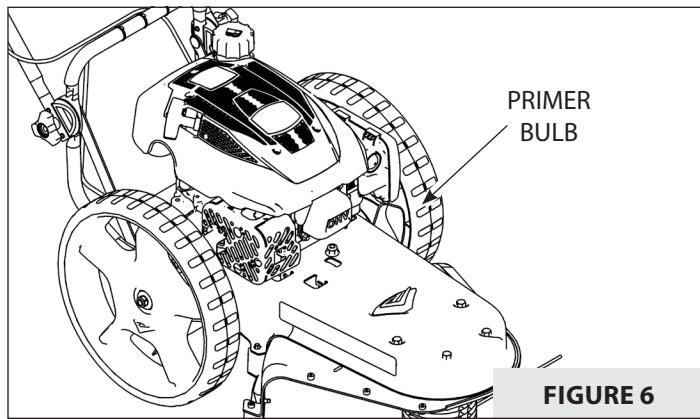

FIGURE 6
- Push the primer bulb three times. Wait approximately two seconds between each push. **SEE FIGURE 6.**
- Set ON/OFF (I/O) Switch to ON (I).
- To start a cold engine, push the primer bulb three times. Wait two seconds between each push of the primer bulb. **SEE FIGURE 6.**